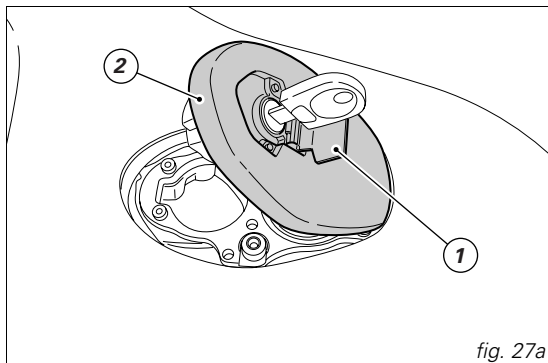

fig. 27a
Lift the protection lid (1) and fit the ignition key into the lock. Turn the key clockwise 1/4 turn to unlock. Lift the plug (2, fig. 27a).